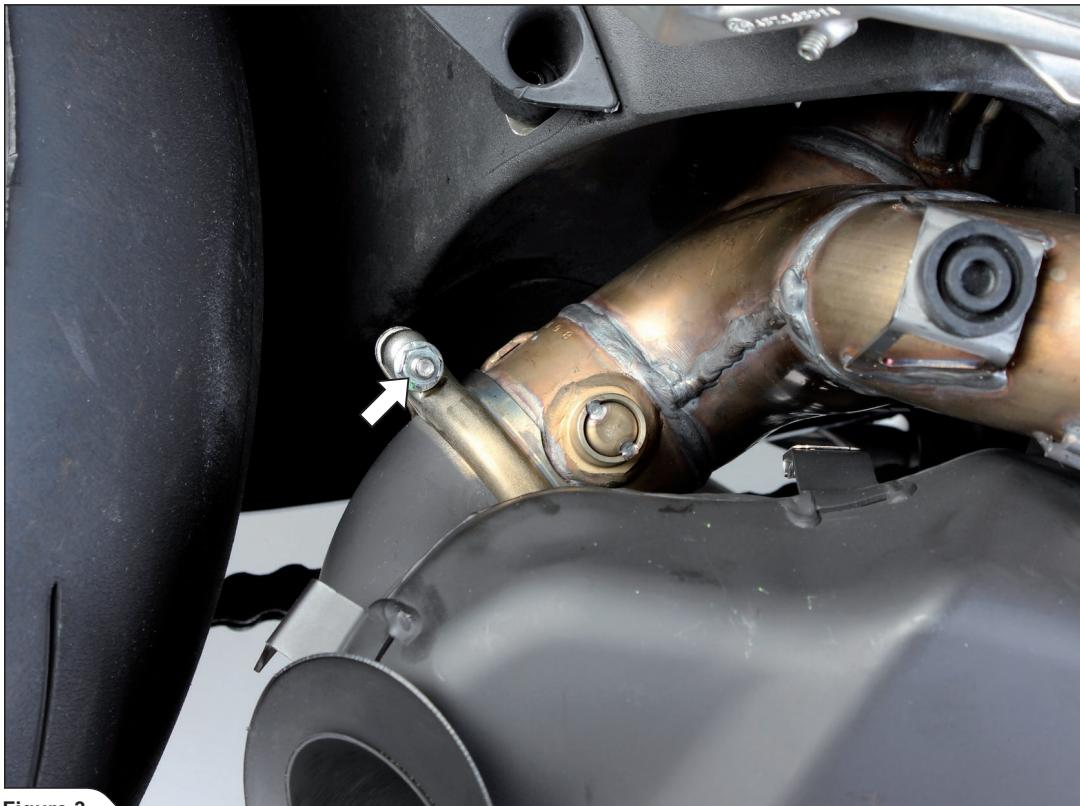

Figure 3
- Unscrew the marked clamp and muffler's bolts and nuts on both sides of the motorcycle. Carefully remove the muffler off the motorcycle (Figure 3, 4, 5, 6).